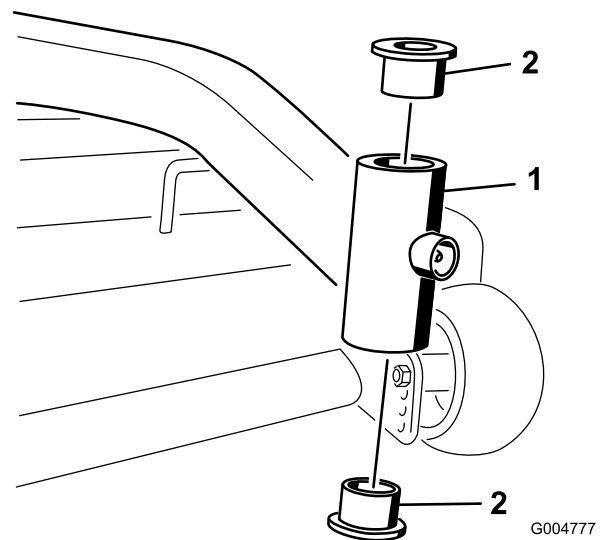

Figure 38
4. Insert a pin punch into the mounting tube and carefully drive out the bushings (Figure 38).